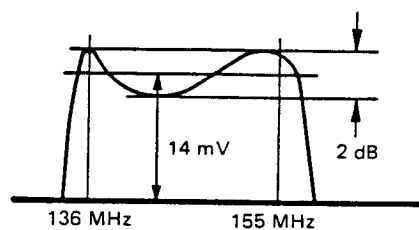

Figure 2
(3) Tune the receiver to 136.000 MHz, set the sweep generator center frequency to 145 MHz, and adjust T8006 - T8010 for the passband waveform shown in Figure 2.